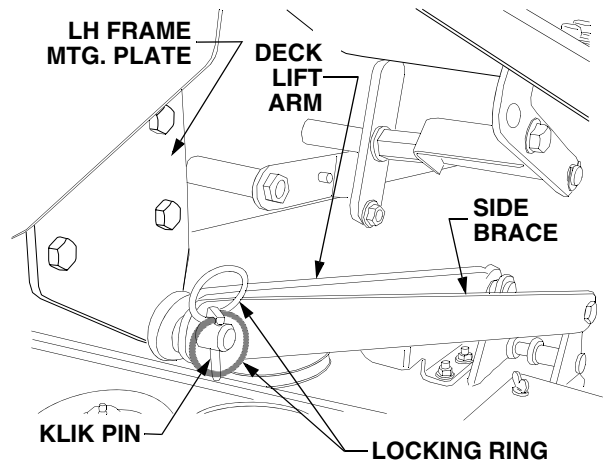

Figure 63
- On each side of the tractor, flip the klik pin locking ring upward and remove the klik pin from the frame mounting plate pin. Slide the side brace and deck lift arms from each frame mounting pin. Reinstall the klik pins to avoid losing. Refer to Figure 63.
- Slide the deck lift arms and side braces onto the pins of the LH and RH frame mounting plates. Insert a klik pin through the hole of each frame mounting plate pin. Flip the locking rings downward and over the ends of the mounting plate pins to lock the klik pins in place. Refer to Figure 63.